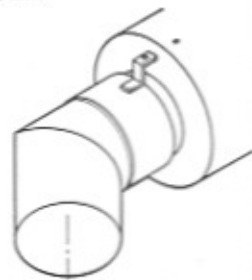
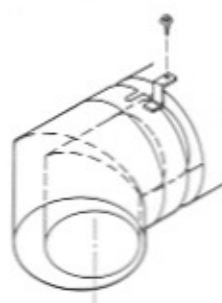

Figure 11
Figure 12
Step 3. Attach the inner 45° elbow over the inner appliance collar until the flange hole aligns with the hole in the outer collar (Figure 11). Insert a #8-15 x 1/2" screw (provided) through hole in outer collar and into flange on inner collar (Figure 12). Do not tighten at this time.